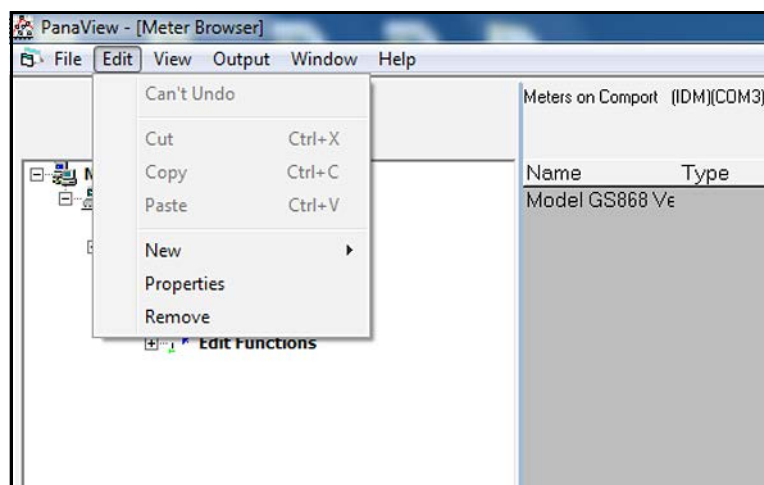
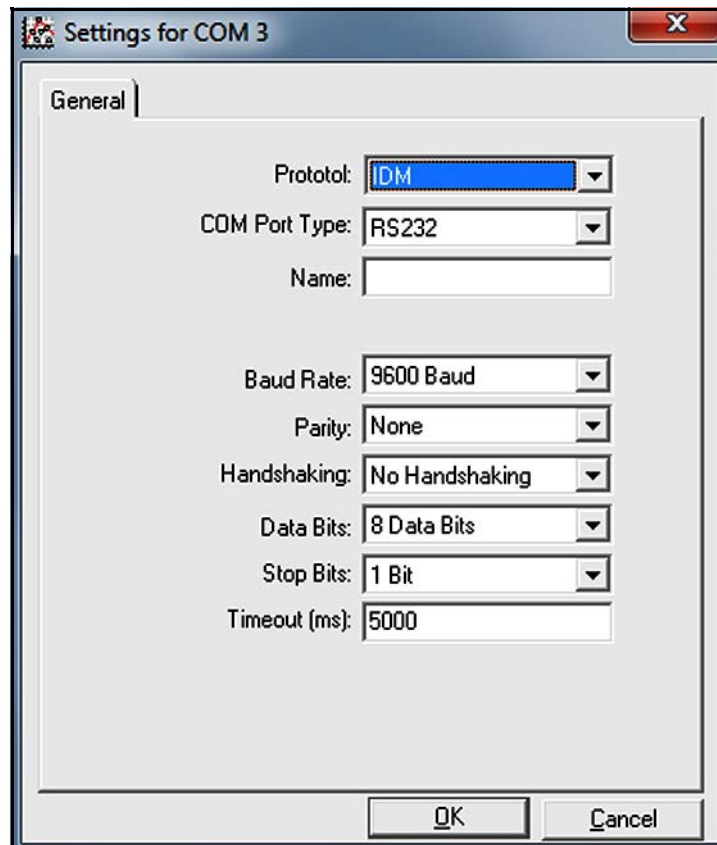
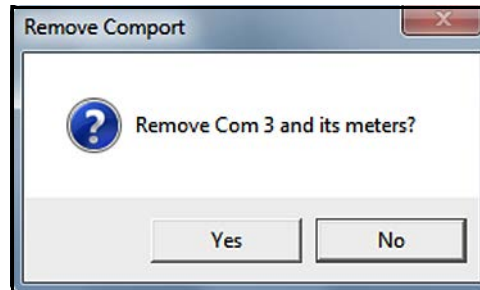

Figure 41: The Edit Menu
Figure 42: Communication Port Settings
Figure 43: Port Removal Confirmation
3. With the desired communication port highlighted, open the edit menu as shown in *Figure 41* below.
1. From the "Edit" menu shown in Figure 41 on page 30, click on the "Properties" option to open the dialog box shown in Figure 42 below.
1. From the "Edit" menu shown in Figure 41 on page 30, click on the "Remove" option to open the dialog box shown in Figure 43 below.